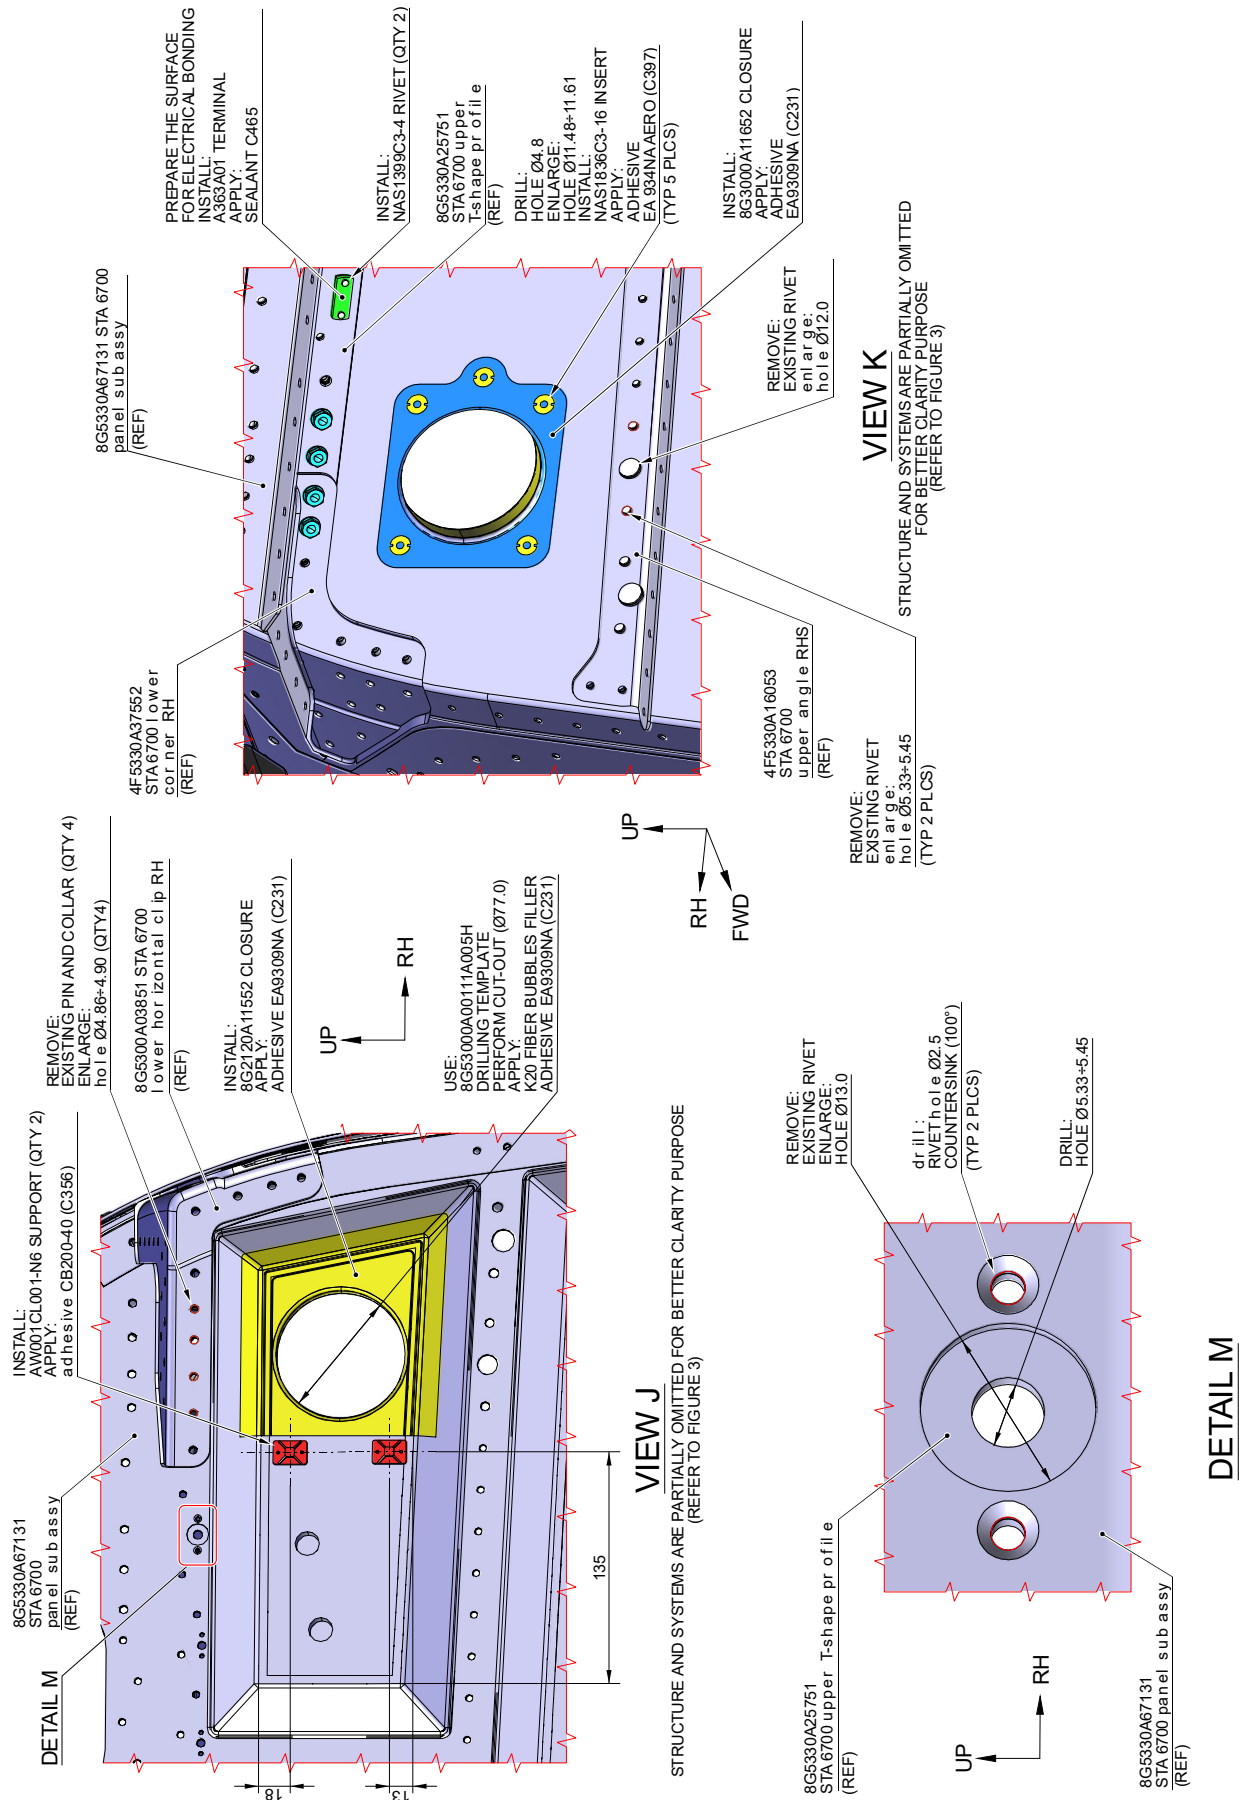

Figure 4
- 2.21 With reference to Figure 4 View J, install n°5 inserts P/N NAS1836C3-16 on the STA 6700 panel sub assy P/N 8G5330A67131 by means of the adhesive EA 934NA AERO (C397).
4. In accordance with AMP DM 89-A-06-41-00-00A-010A-A and with reference to Figures 4, 5 and 13, remove all external panels, internal panels and internal liners as required to gain access to the area affected by the installation and perform the right avionic bay fan equipment installation P/N 8G2120A11011 as described in the following procedure:
- 4.1 With reference to Figure 4 View J, install n°2 supports P/N AW001CL001-N6 on the Upper Drainage Cowling RH P/N 4F5300A00732 (not shown) installed on top of the STA 6700 panel sub assy P/N 8G5330A67131 by means of adhesive CB200-40 (C356) in accordance with the dimensions shown.